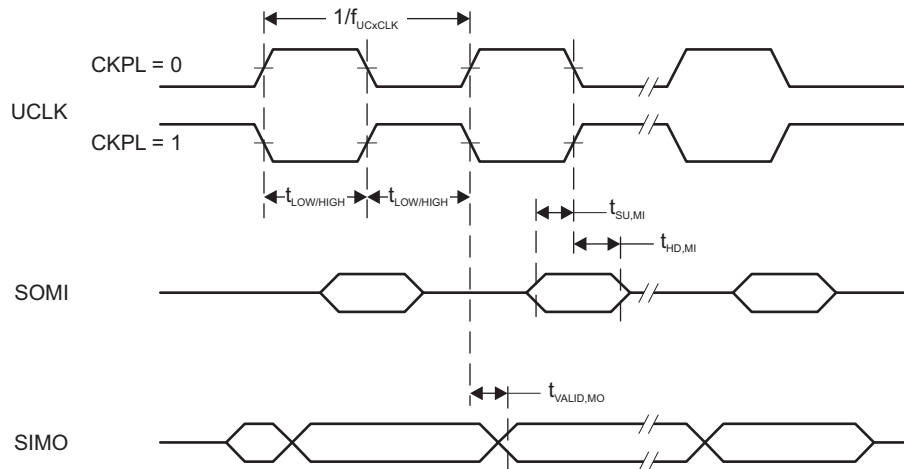
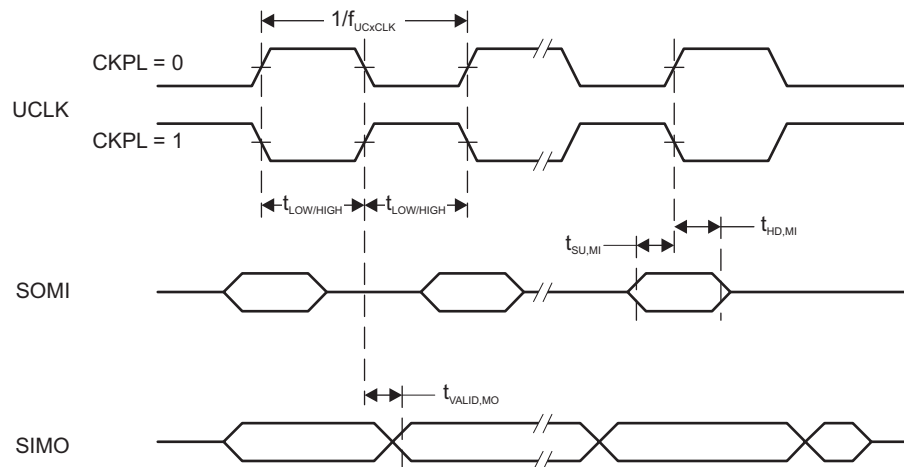

Figure 5-11. SPI Master Mode, CKPH = 0
Figure 5-12. SPI Master Mode, CKPH = 1
- (1) $f_{UCxCLK} = 1/2(t_{LO/Hi})$ with $t_{LO/Hi} = \max(t_{VALID,MO(eUSCI)} + t_{SU,SI(Slave)}, t_{SU,MI(eUSCI)} + t_{VALID,SO(Slave)})$. For the slave parameters $t_{SU,SI(Slave)}$ and $t_{VALID,SO(Slave)}$ see the SPI parameters of the attached slave.
- (2) Specifies the time to drive the next valid data to the SIMO output after the output changing UCLK clock edge. See the timing diagrams in Figure 5-11 and Figure 5-12.
- (3) Specifies how long data on the SIMO output is valid after the output changing UCLK clock edge. Negative values indicate that the data on the SIMO output can become invalid before the output changing clock edge observed on UCLK. See the timing diagrams in Figure 5-11 and Figure 5-12.